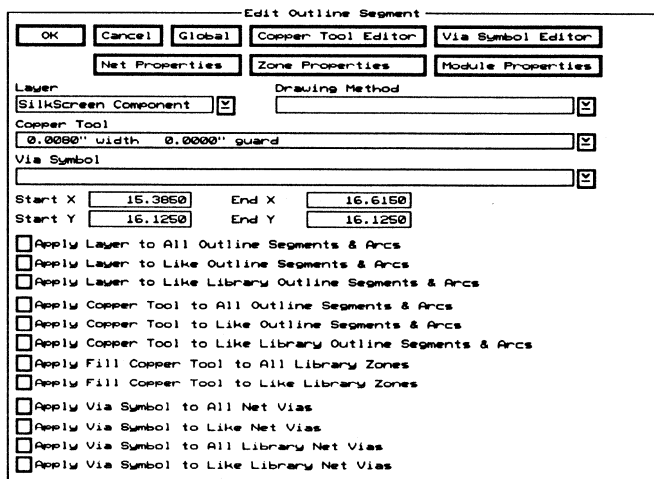

Figure 5-7. The *Edit Outline Segment* dialog box.
2. Place the tip of the pointer on one of the outline segments that defines the rectangular shape of the module and select **EDIT**. The **Edit Outline Segment** dialog box displays (figure 5-7).